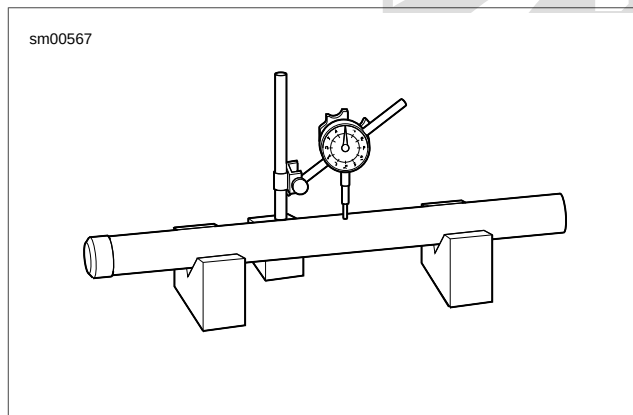

Figure 2-80. Slider Fork Runout
6. See Figure 2-80. Measure slider fork runout. Replace pipe if runout exceeds the service wear limit of 0.008 in. (0.2 mm).